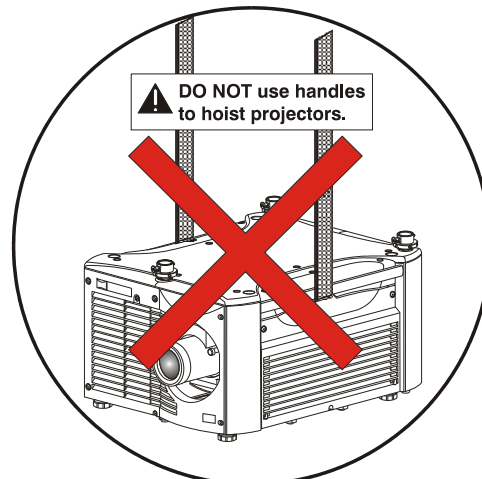

Figure 2.7. NEVER Use Handles for Hoisting or as Safety Points
- Never hoist a projector by its feet, handles, or any other component (**Figure 2.7**).